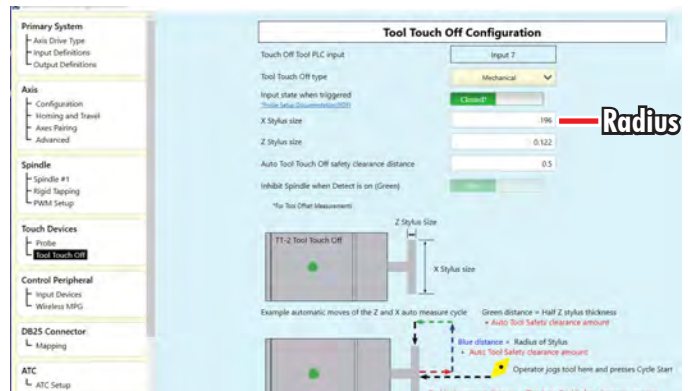

FIGURE 9
To fix this, we entered the stylus Radius instead of the Diameter and that fixed the problem. We also have parameter 55 set to (0) for Diameter (see Figure 9).